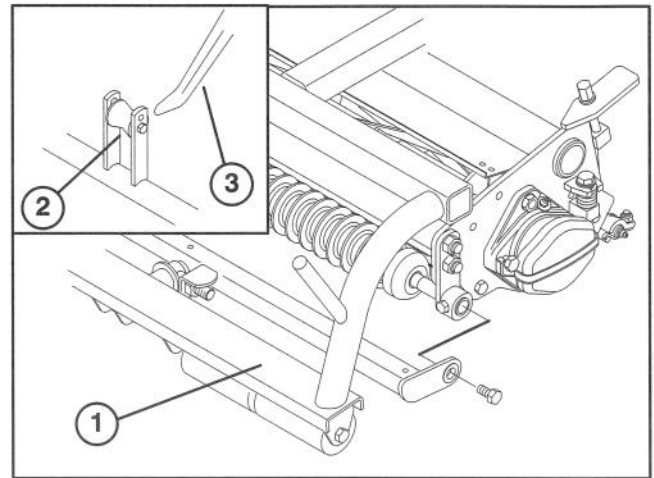

Figure 8
2. Slide the cutting unit under the pull frame while hooking the lift roller onto lift arm (Fig. 8).